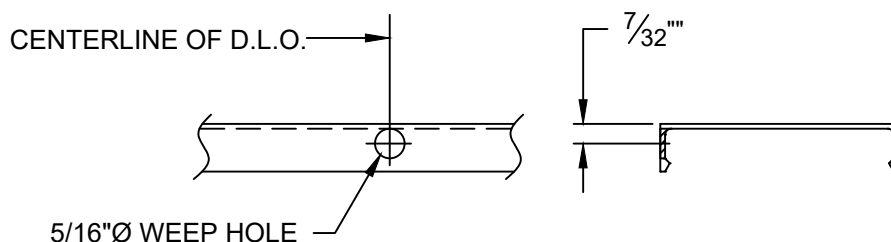

FIGURE 5
- 1.6 Drill 5/16" diameter weep holes at 1/4 points in the horizontal pressure plate. Drill (1) 5/16" diameter weep hole at the bottom of each horizontal face cover at centerline of D.L.O. **SEE FIGURE 5. NOTE: For SSG applications, face covers typically run across mullions, so there will be multiple holes in each horizontal face cover.**